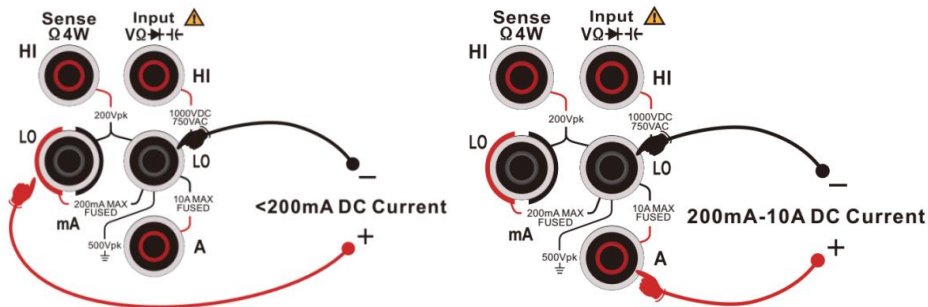

Figure 2-7 Connection of DC voltage measurement
2) Connect the multimeter to the circuit as Figure 2-7. When the current is <200mA, connect the red test lead to terminal mA and connect the black one to terminal Input-LO; When the current is 200mA-10A, connect the red test lead to the terminal A and connect the black one to terminal Input-LO.